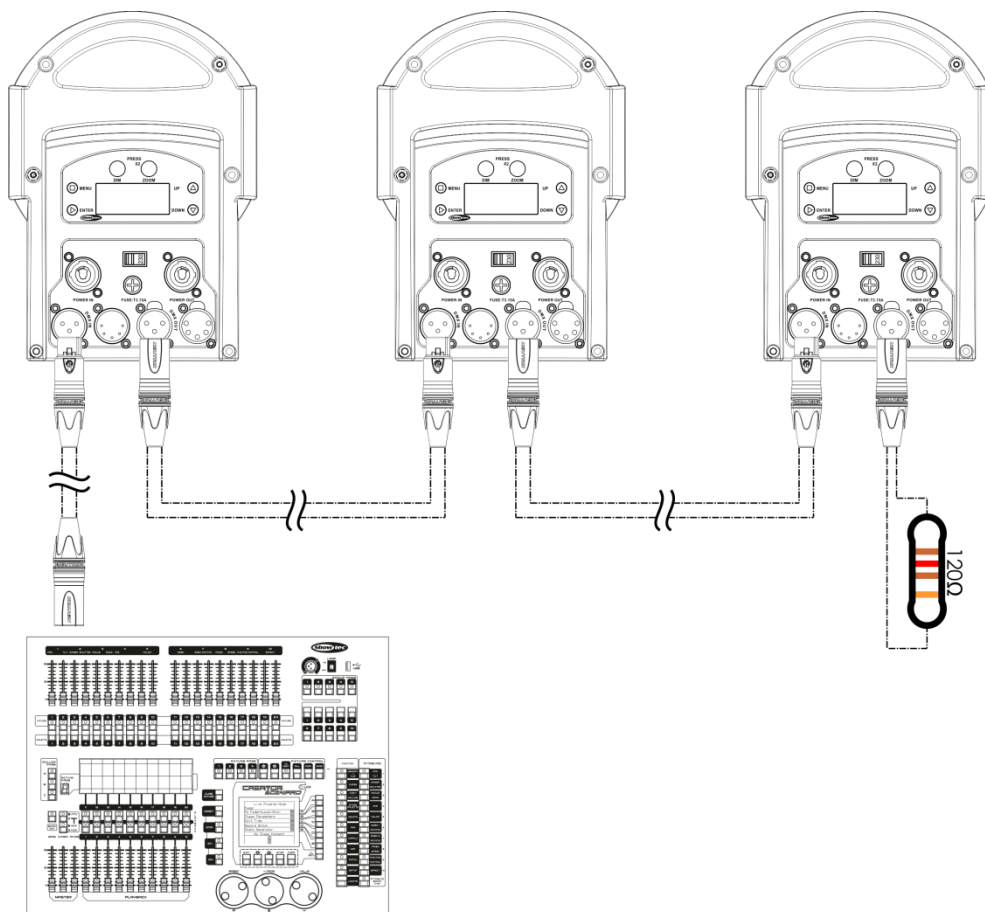

Fig. 07
- 04) Link the units as shown in Fig. 07. Connect the first unit's DMX "out" socket with the second unit's "in" socket, using a DMX-signal cable. Repeat this process to link the second, third, and fourth units.